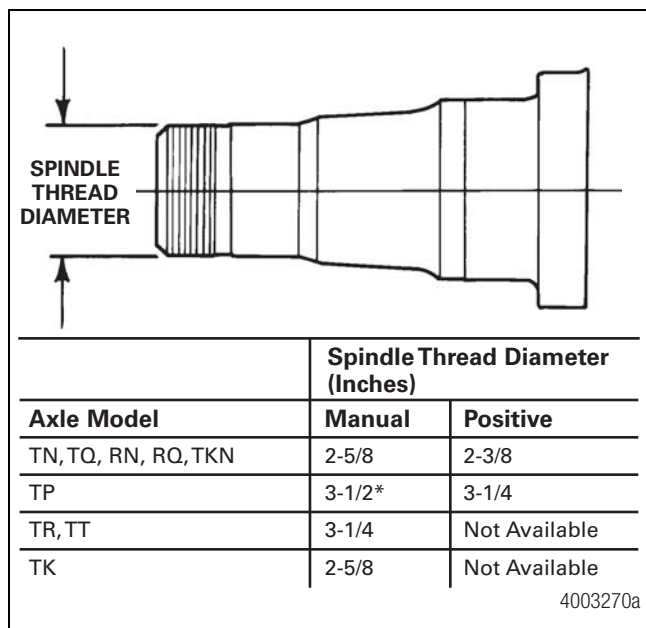

Figure 9.7
- On all positive adjust axle models, except the TP, the spindle threads are smaller than the manual adjust threads. Figure 9.7.